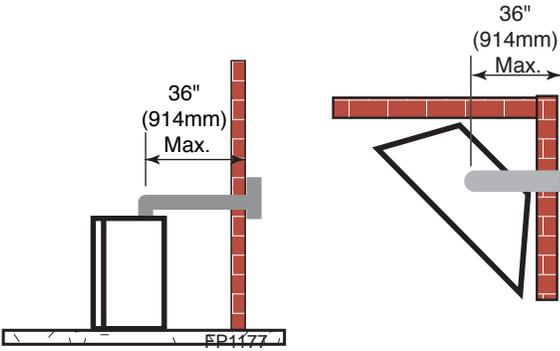

Figure 29 –
- If a 90° elbow is fitted directly on top of the fireplace flange the maximum horizontal vent run before the termination or a vertical rise is 36" (914 mm). Figure 29